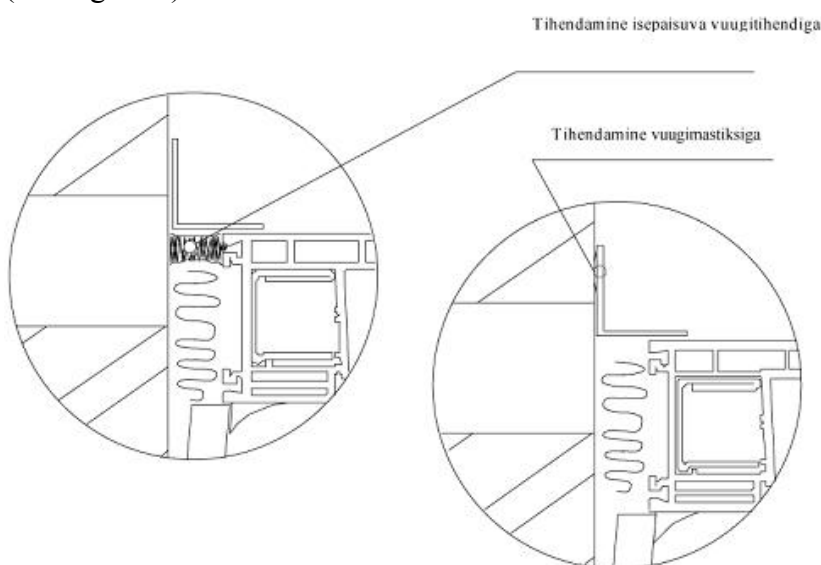

Figure 8. Possible additional sealing methods for the external joint
- sealing the outer joint with a self-expanding joint seal (see Figure 8)
- sealing the cover strips and the part and the part between the frames with joint mastic (see Figure 8)